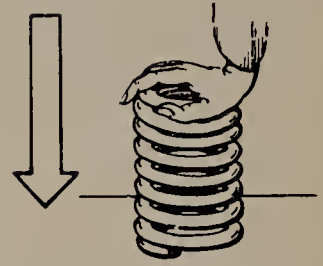

FIGURE 5.1 When a spring is compressed, work is done on that spring, and energy is stored in it.
5.1 Work. Work is the moving of an object against an opposing force. The object is moved by a push, a pull, or a lift. For example, when a weight is lifted, it is moved upward against the pull of gravity. Work is done on the weight. Also, when a coil spring is compressed, work is done on the spring (Fig. 5.1).